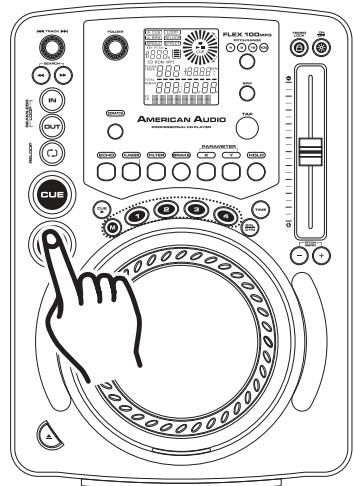

Figure 10
3. STARTING PLAYBACK - *Figure 10*
5. STOPPING PLAYBACK - *Figures 10 & 11*
- 1) Press the *PLAY/PAUSE BUTTON* (18) during playback. This will pause playback at the exact same point the *PLAY/PAUSE BUTTON* (18) was pressed.
- 2) Press the *CUE BUTTON* (20) during playback. This will pause playback and return the track to the last set cue point.
6. PAUSING - *Figure 10*